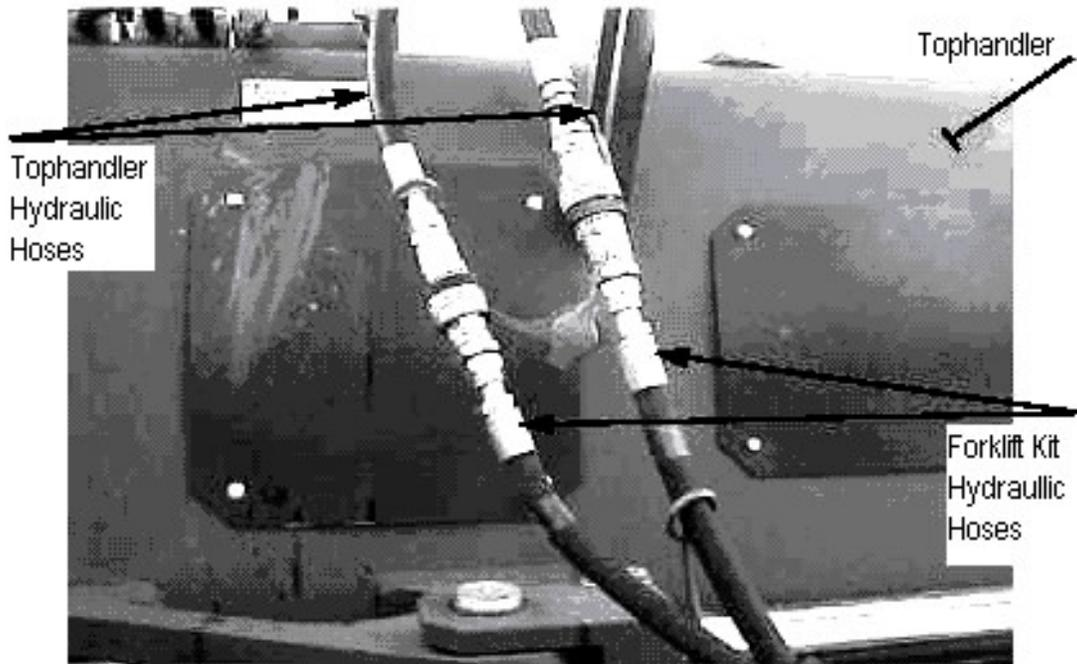

Figure 3-175
5. Remove protective caps from forklift kit hydraulic hose connectors and connect the two forklift kit hydraulic hose quick disconnects to the hydraulic hose quick disconnects that were disconnected from the tophandler (see Figure 3-175).